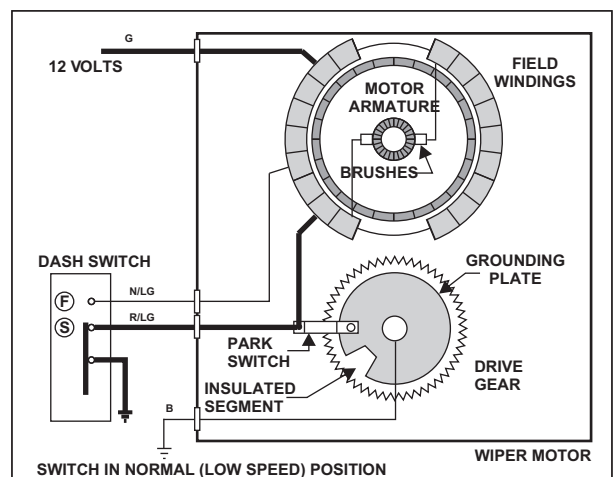

FIGURE 1
**NORMAL OPERATION:** Refer to **figure 1** below. With the dash switch in the low speed position, switch terminal "S" is connected to ground, the motor field windings are grounded, and the wipers are operating. The position of the insulated segment with respect to the park switch is immaterial, as the motor is already grounded by the dash switch; if the wipers are not in the park position, the park switch just provides an additional ground path. The current path in this condition is shown by the heavy lines.